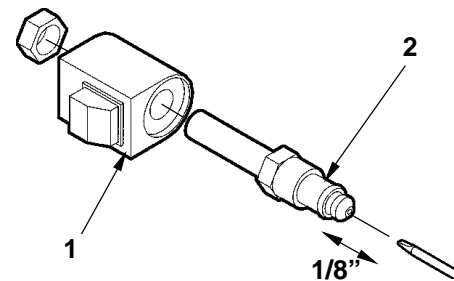

FIG. 37-2
2. Check the Valve Stem by removing the Coil Assembly (**Item 1, FIG. 37-2**). With platform on ground, unscrew the Valve Stem, (**Item 2, FIG. 37-2**) from the Pump. Push on the plunger that is located inside the Valve Stem by inserting a small screwdriver blade in the end. If the Plunger does not move freely (approximately 1/8") replace the Valve Stem. **When re-installing valve stem, torque hex nut to 30 in-lbs.**